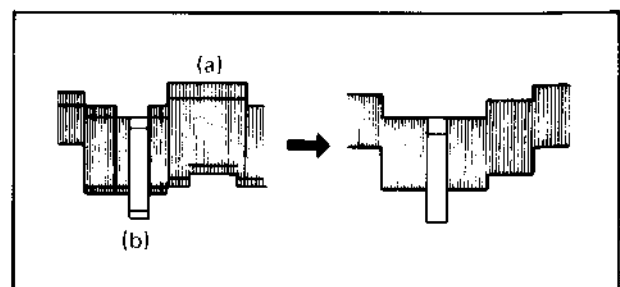

Fig. 5-16 Limiter and Carrier balance
5. Adjust R98 (LIMITERBAL-2) and R89 (CARRIER BAL.) so that the peak white (a) and sync tip (b) becomes a single line as shown in Fig. 5-16.